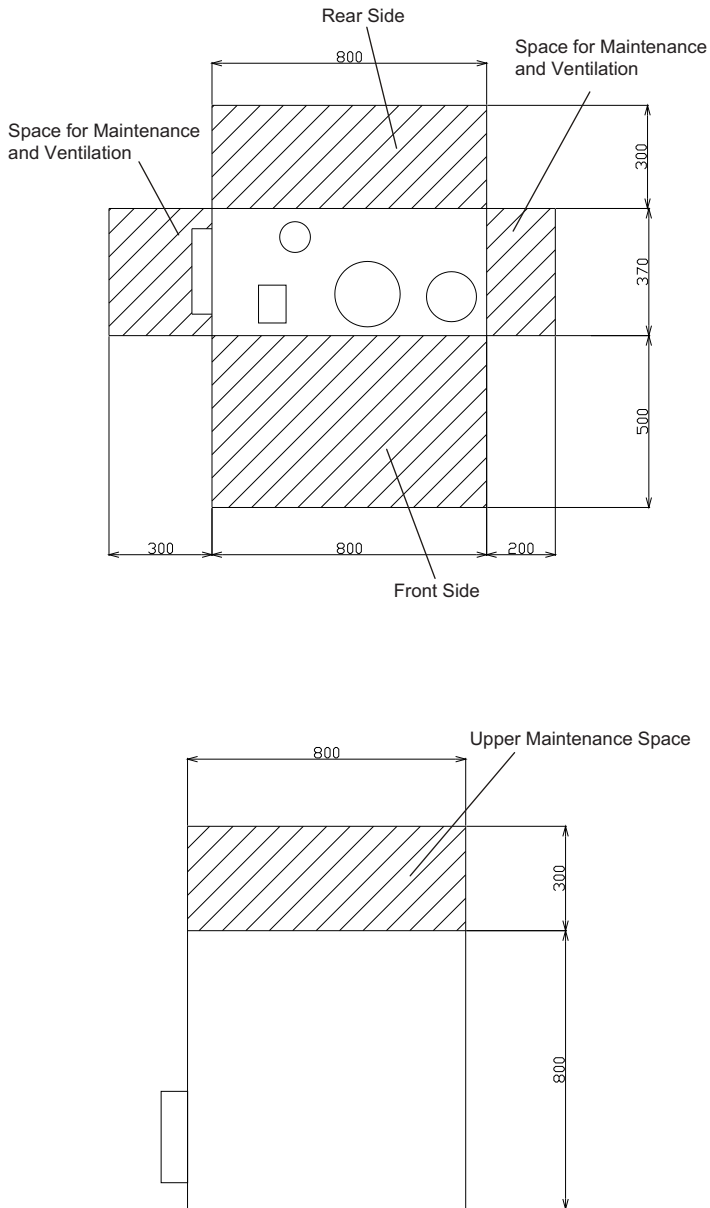

Fig. 4.1 Space for Installation and Maintenance
- Install the outdoor unit with a sufficient space around the outdoor unit for operation and maintenance as shown in Fig. 4.1.